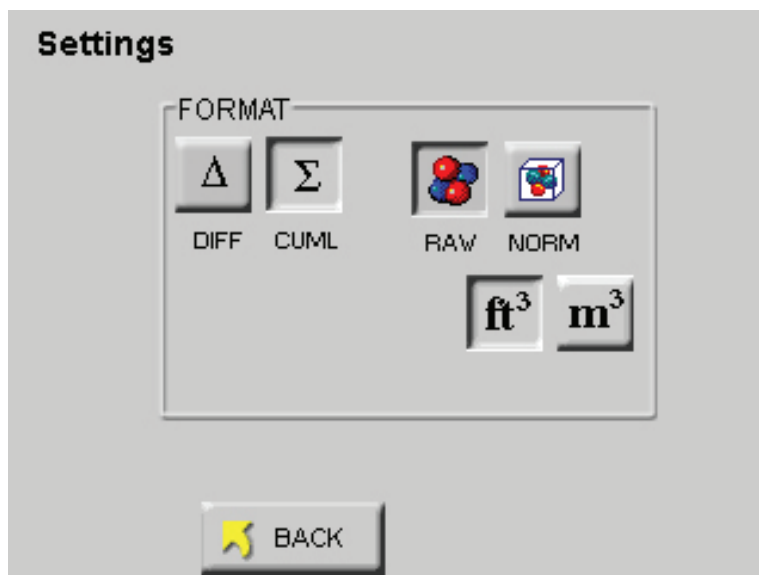

Figure 4-76 Reports Settings Screen
- Select the SETTING button to format the instrument for CUML/ DIFF, RAW/NORM, ft³/m³ as shown in Figure 4-76.